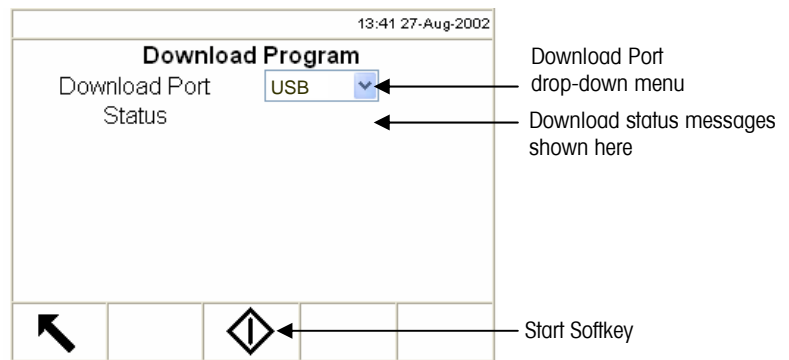

Figure 4-2: Download Program Screen
8. Go to the setup menu and select Maintenance/Run/Download. The Download Program screen displays (Figure 4-2).